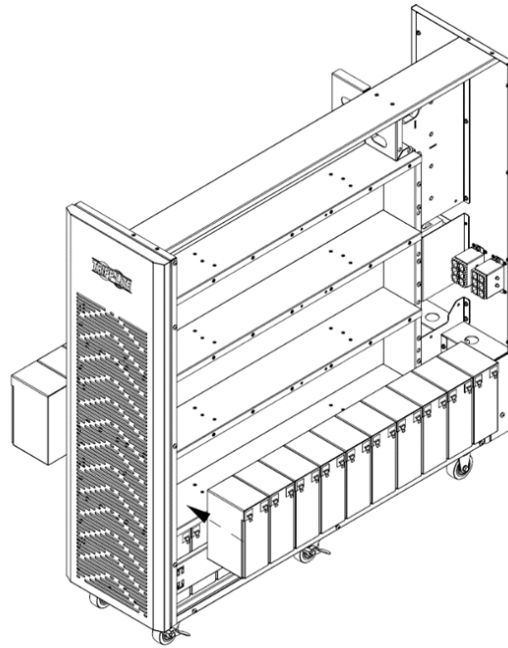

Figure 5-8B
9. Install another 10 battery packs in the layer (L2-B, group 2 negative string). Be sure to keep terminal sides of all batteries up (Figure 5-8B).